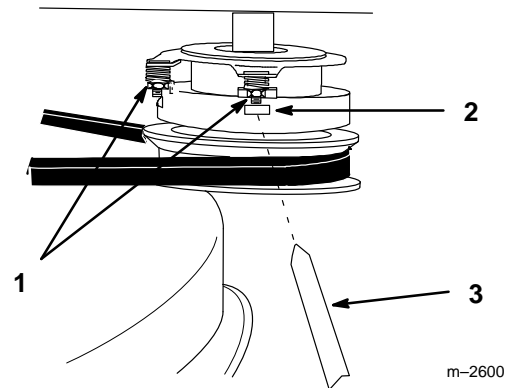

Figure 32
1. To adjust clutch, tighten or loosen lock nuts on flange studs (Fig. 32).
2. Check adjustment by inserting feeler gauge thru slots next to studs (Fig. 32).